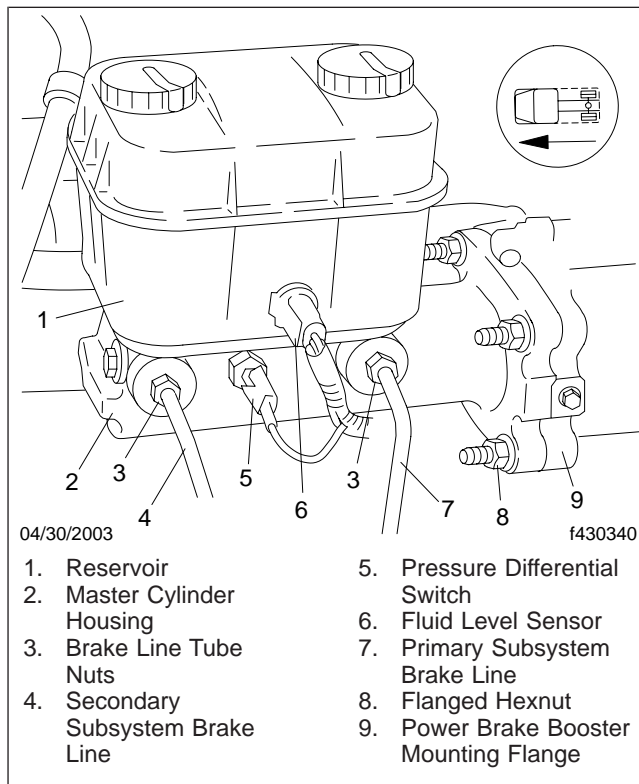

Fig. 1, Master Cylinder Assembly
3. Disconnect the wires from the pressure differential switch on the master cylinder body and the fluid level sensor on the reservoir. See **Fig. 1**.